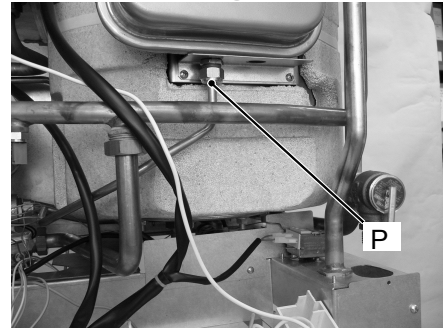

Figure 6
- 2) Unscrew the nut P (Figure 6).